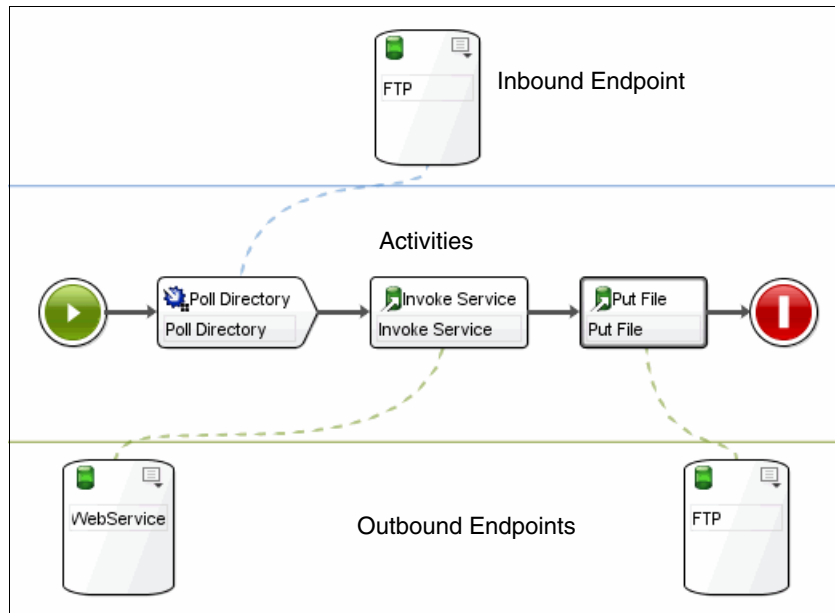

Figure 3-27 The workspace for an orchestration with activities and endpoints
Figure 3-27 shows an orchestration with some activities and endpoints.
**Tip:** If an endpoint is used as both inbound and outbound, it can be displayed in both the top section and the bottom section of the workspace. In Figure 3-27, the FTP endpoint is used to both get files and to put files using FTP.